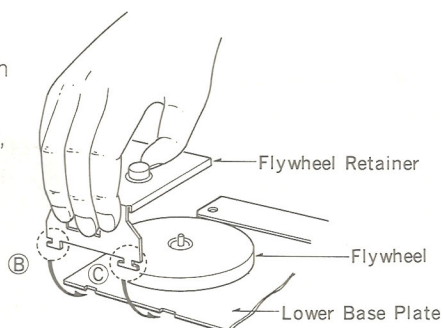

Fig. 19
3. Engage the parts ⑥ and ⑦ of the flywheel retainer with the lower base plate as shown in fig. 19.